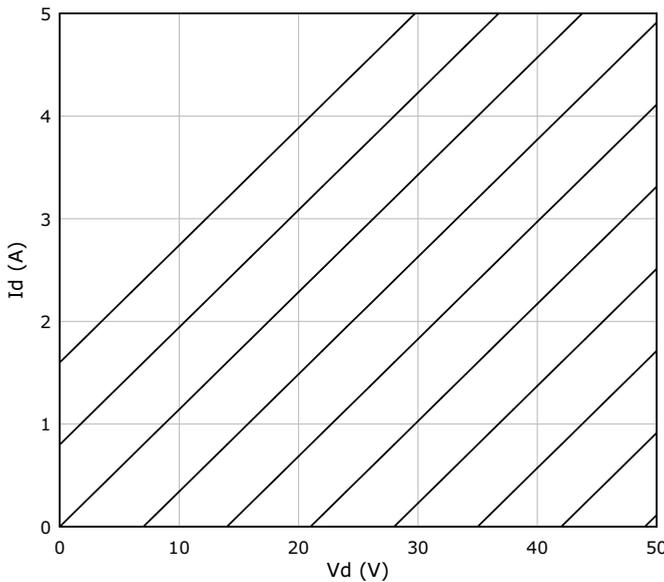

Figure 1 Power SIT curves based on equation (1)
The plate current is i_p , K is a constant originally called perveance, V_g is the grid voltage, V_p is the plate voltage, and μ is the amplification factor. In **Figure 1** below, I have attempted to use equation (1)